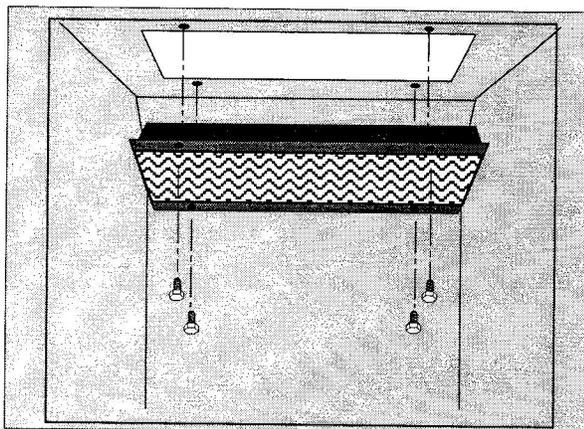

Figure 34. Remove the catalytic combustor module.
3. Use the wrench to remove the four 1/4-20 x 1/2" hex head cap screws that secure the combustor module to the top of the firebox. Fig. 34. Pull the module down out of the cutout in the firebox.